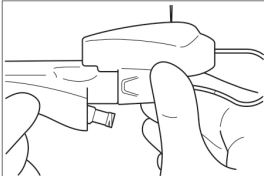
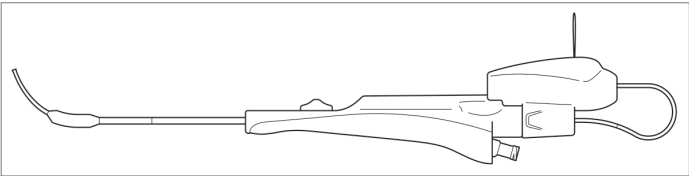

Figure 3
Figure 4
- Attach the LED Light Fiber housing to the barbed fitting of the XprESS device (Figure 3). Align the distal tip of the fiber with the distal end of XprESS (Figure 4).